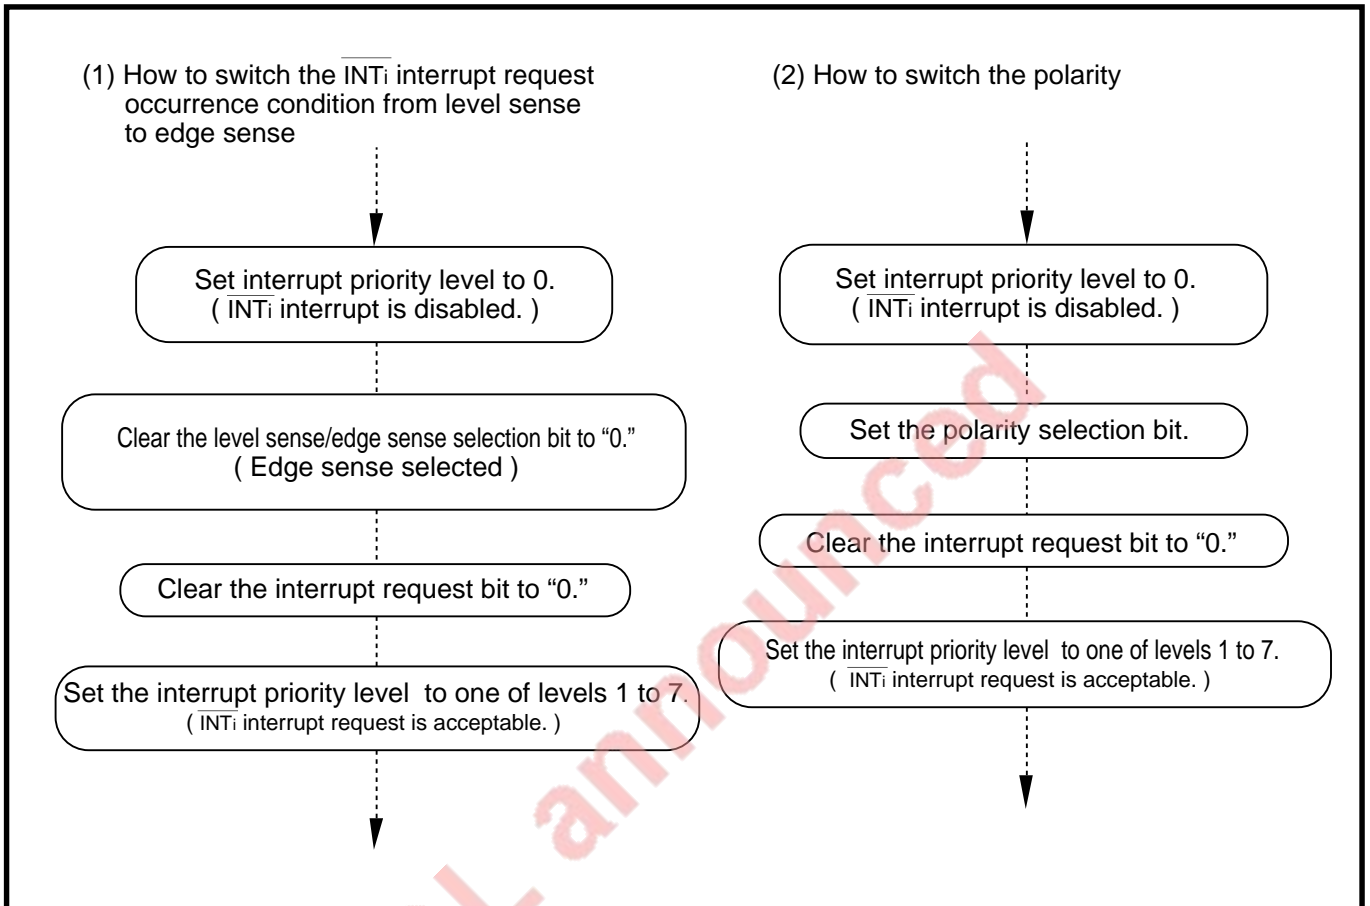

Fig. 4.10.5 How to switch  $\overline{\text{INTi}}$  interrupt request occurrence condition
The way to switch the  $\overline{\text{INTi}}$  interrupt request occurrence condition from the level sense to the edge sense is shown in Figure 4.10.5 (1).
The way to switch the polarity is shown in Figure 4.10.5 (2).